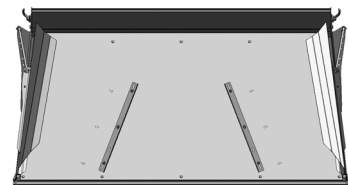

Figure 4
4) **Inner Deflecting Fins.** See Figure 4